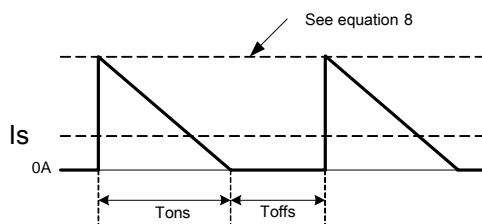

Figure 7 . Secondary Current Waveform
The D804 is designed to work in constant-current (CC) mode. Figure 7 shows the secondary current waveforms.